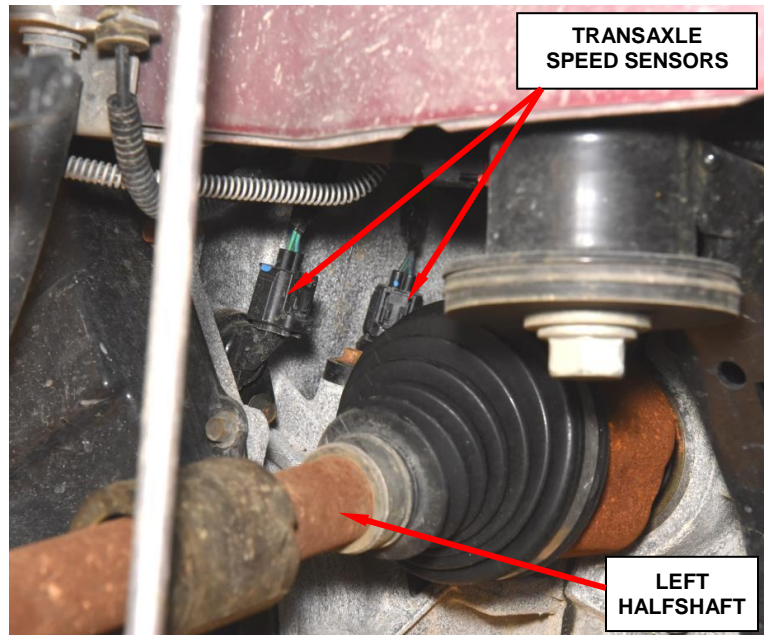

Figure 5 – Transaxle Speed Sensors
15. Disconnect the electrical connectors for both transaxle speed sensor located by the left halfshaft (Figure 5).